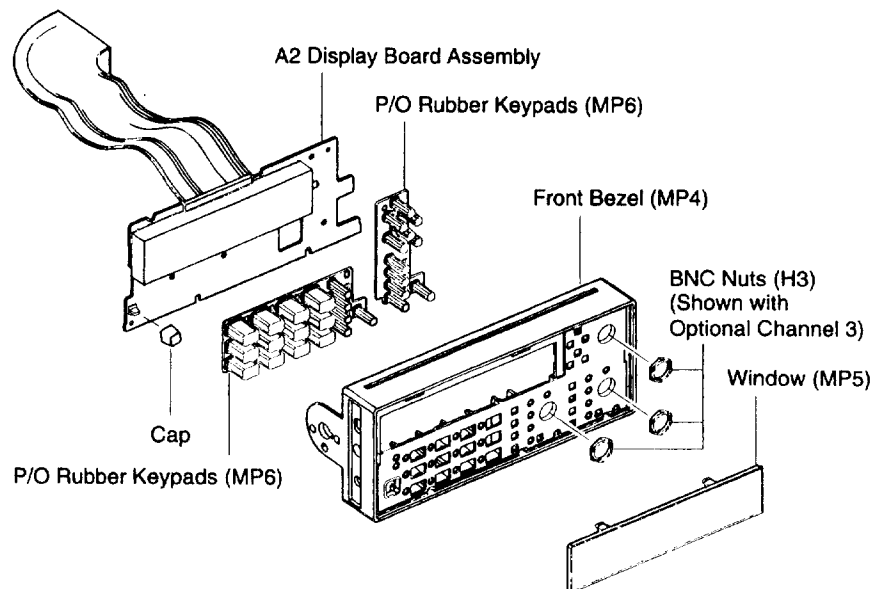

Figure 3-7. A2 Display Board, Keypad, and Window Removal
3 Note that A2 Display Board Assembly, shown in Figure 3-7, is held in place by five tabs (two on top and three on bottom) which are part of the front bezel.
- 8 As shown in Figure 3-7, the rubber keypads (MP6) are now free. Just pull them out of the bezel.**
- 9 Remove the window (MP5), shown in Figure 3-7, by pressing down on the two top tabs and sliding the window forward.**